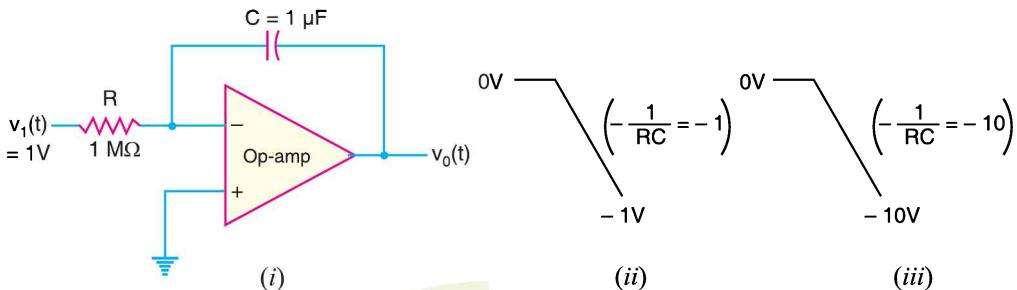

Fig. 25.82
**Output voltage.** If a fixed voltage is applied to the input of an integrator, eq. (iv) shows that the output voltage grows over a period of time, providing a ramp voltage. Eq. (iv) also shows that the output voltage ramp (for a fixed input voltage) is opposite in polarity to the input voltage and is multiplied by the factor  $1/RC$ . As an example, consider an input voltage  $v_i = 1V$  to the integrator circuit of Fig. 25.82 (i). The scale factor of  $1/RC$  is
so that the output is a negative ramp voltage as shown in Fig. 25.82 (ii).
and output is then a steeper ramp voltage as shown in Fig. 25.82 (iii).